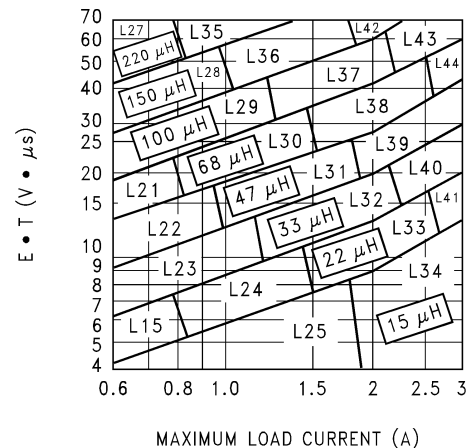

Figure 28. LM2599-ADJ
2. Inductor Selection (L₁) A. Calculate the inductor Volt • microsecond constant E • T (V • μs), from the following formula: $E \cdot T = (V_{IN} - V_{OUT} - V_{SAT}) \cdot \frac{V_{OUT} + V_D}{V_{IN} - V_{SAT} + V_D} \cdot \frac{1000}{150 \text{ kHz}} (V \cdot \mu s) \quad (4)$ where V_{SAT} = internal switch saturation voltage = 1.16V and V_D = diode forward voltage drop = 0.5V B. Use the E • T value from the previous formula and match it with the E • T number on the vertical axis of the Inductor Value Selection Guide shown in Figure 28 . C. on the horizontal axis, select the maximum load current. D. Identify the inductance region intersected by the E • T value and the Maximum Load Current value. Each region is identified by an inductance value and an inductor code (LXX). E. Select an appropriate inductor from the four manufacturer's part numbers listed in Table 5 .	2. Inductor Selection (L₁) A. Calculate the inductor Volt • microsecond constant (E • T), $E \cdot T = (28 - 20 - 1.16) \cdot \frac{20 + 0.5}{28 - 1.16 + 0.5} \cdot \frac{1000}{150} (V \cdot \mu s)$ $E \cdot T = (6.84) \cdot \frac{20.5}{27.34} \cdot 6.67 (V \cdot \mu s) = 34.2 (V \cdot \mu s) \quad (5)$ B. E • T = 34.2 (V • μs) C. I _{LOAD(max)} = 3A D. From the inductor value selection guide shown in Figure 28 , the inductance region intersected by the 34 (V • μs) horizontal line and the 3A vertical line is 47 μH, and the inductor code is L39. E. From the table in Table 5 , locate line L39, and select an inductor part number from the list of manufacturers part numbers.